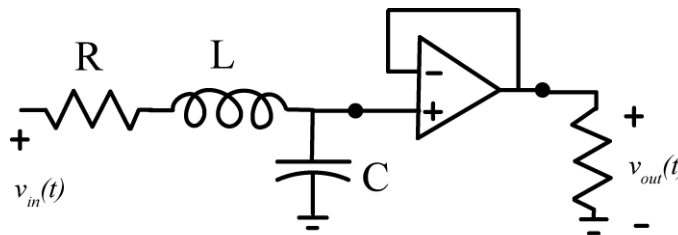

Figure 12. Our second order system
- 2) Modify your circuit so the plant and isolation amplifier is as shown in Figure 12. Again the resistor is $1\text{ k}\Omega$, but the capacitor is a $0.01\ \mu\text{f}$ capacitor, and the inductor is a 33 mH inductor (we've used the inductor and capacitor before in Lab 2).